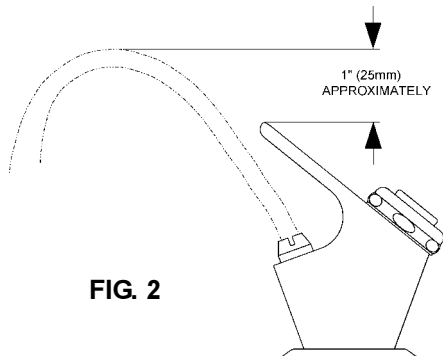
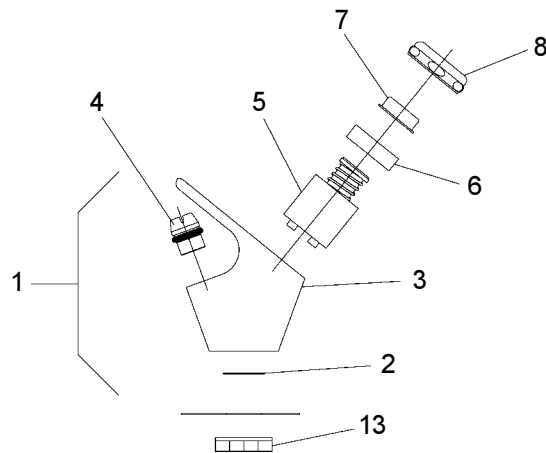

FIG. 2
FIG. 3
- 6. Check** stream height from bubbler. Stream height is factory set at 35 PSI. If supply pressure varies greatly from this, remove items 7 and 8 (See Figure 3) and adjust the screw on the regulator (Item 5). Clockwise adjustment will raise stream height and counter-clockwise will lower stream height. For best adjustment stream should be approximately 1" (25mm) above the bubbler guard. (See Figure 2).